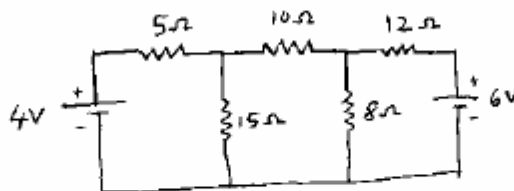

Fig. 1
11. (a) (i) Using nodal method find current through  $8\Omega$  resistor of fig. 1. (8)